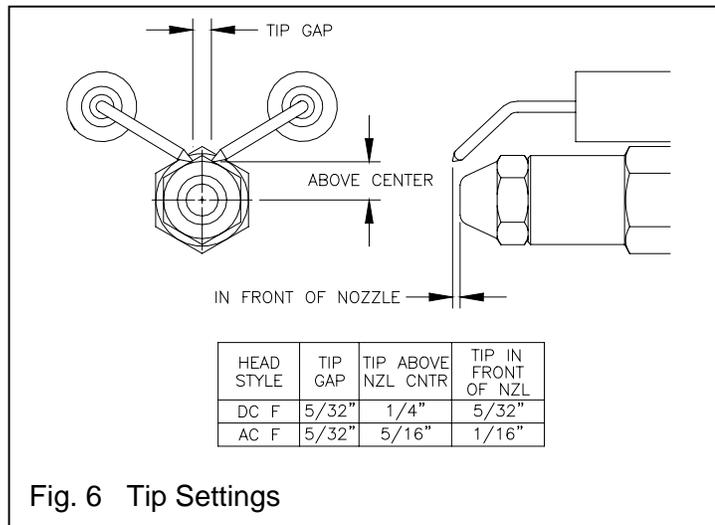

Fig. 6 Tip Settings
6. Electrode tip setting reference chart **Fig. 6**. See individual burner instruction manuals for more details.